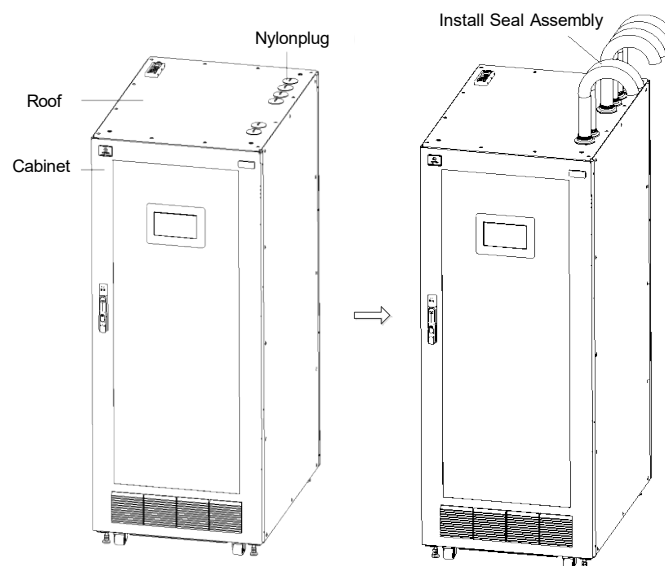

Figure 2-31 Sealing Assembly Installation
2) On site according to the customer line position, select the inlet hole, remove the stuffy cover at the top of the cabinet, and then install the sealing assembly at the top of the cabinet after installation as shown in Figure 2-31.